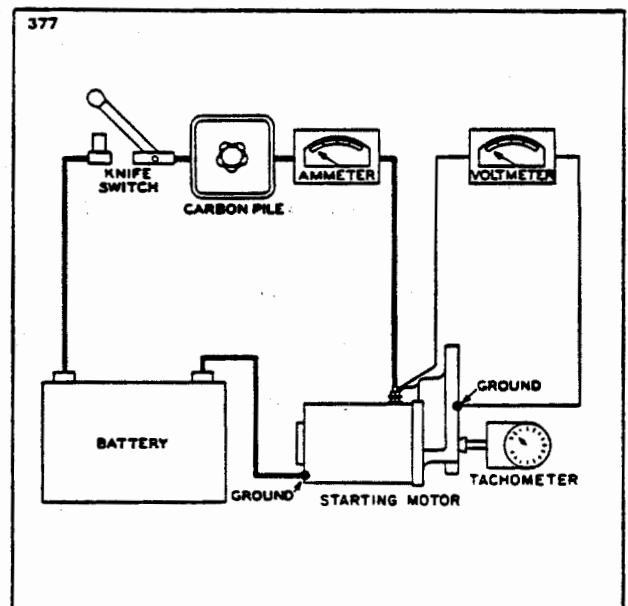

Figure 11-24. No Load Test Hookup
a. After the starting motor is reassembled, it should be tested to see that the no load current at a certain voltage is within specification as given in Paragraph 11-53. To make this test, connect as shown in Figure 11-24. If current is too high, check the bearing alignment and end play to make sure there is no binding or interference. Two or three sharp raps on the frame with a rawhide hammer will often help to align the bearings and free the armature.